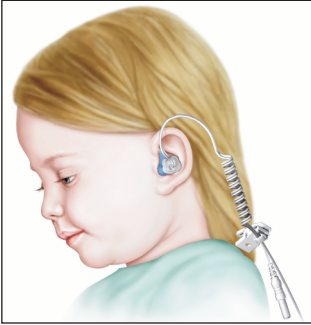

Figure 17a: Earset Insertion and Orientation
- e. Route the cable behind the ear, and clip the cable to the patient's clothing behind the shoulder or neck, ensuring there is sufficient tension on the cable's coil to maintain its routing behind the ear (**Figures 17a and 17b**).